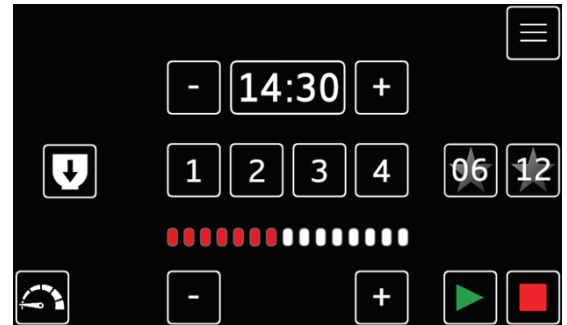

Figure 15-1.
1. Select the main menu button (Figure 15-1).
6. Select the “+” symbol to add a line # to a recipe (Figure 15-1).